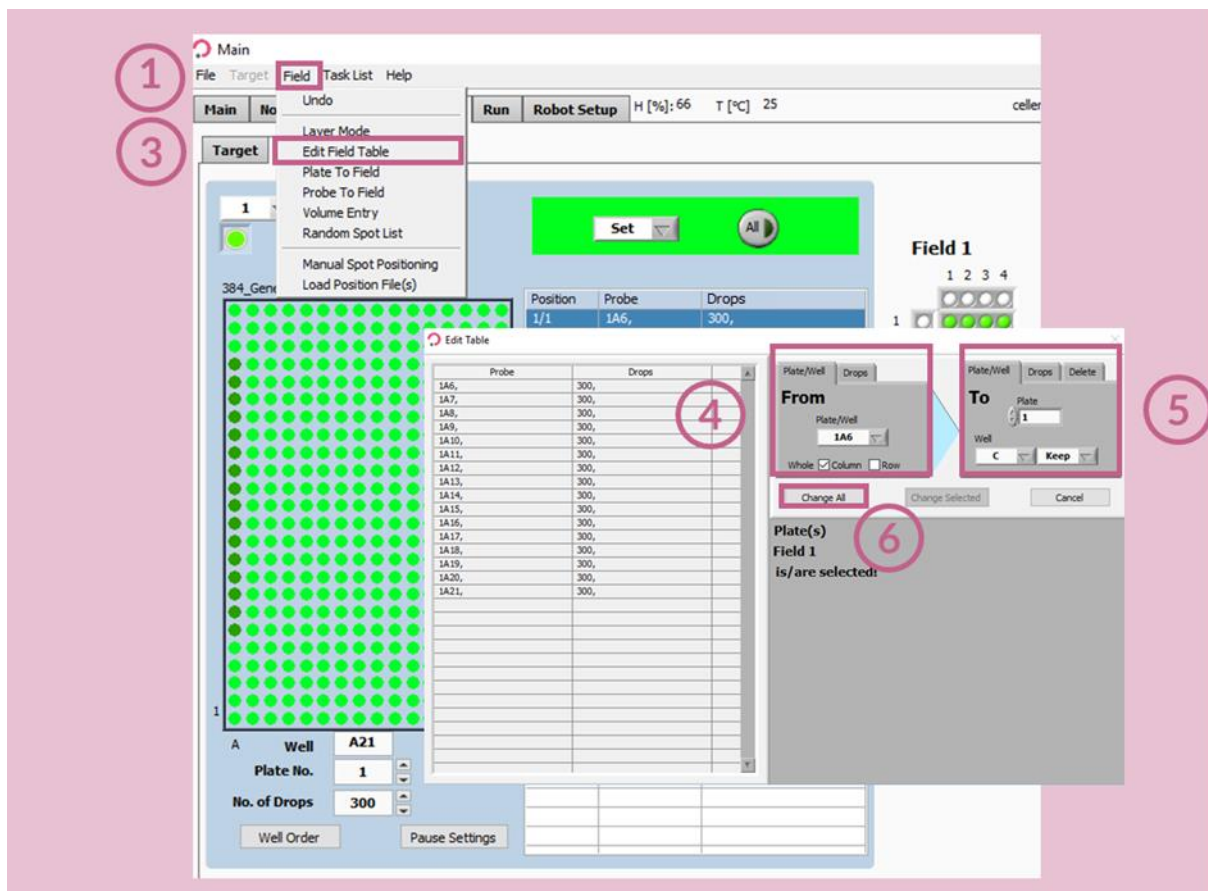

Figure 6: Edit Field Table
- The “Edit Field Table” can be found at: Field setup >> Edit Field table >> Popup window will appear (Figure 6 ③).
Note. If you want to shift the entire column from A to the column C, select whole “column” (Figure 6 ④) and then select column C (Figure 6 ⑤) and “Change all” (Figure 6 ⑥).
To modify the number of drops in the Field setup refer to Figure 6 and change the number of drops by clicking on the Drops subtab (Figure 6 ④).